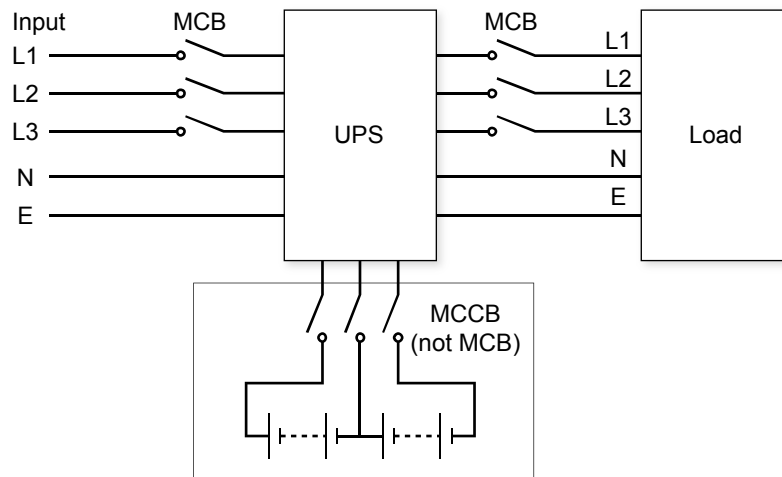

Figure 2 Power cable wiring configuration for a single UPS
- Always fit an MCB between the mains supply live lines only and the UPS input (see Figure 2).
- Fit a 3 pole MCCB, with a suitable d.c. voltage rating and breaking capacity, between the battery and the UPS (see Figure 2).
- Although it may not be absolutely necessary, we recommend you fit an MCB between the UPS and the load to protect the output load and cables in the event of a fault (see Figure 2). You may also wish to connect the UPS output to your load via a power distribution unit (PDU).